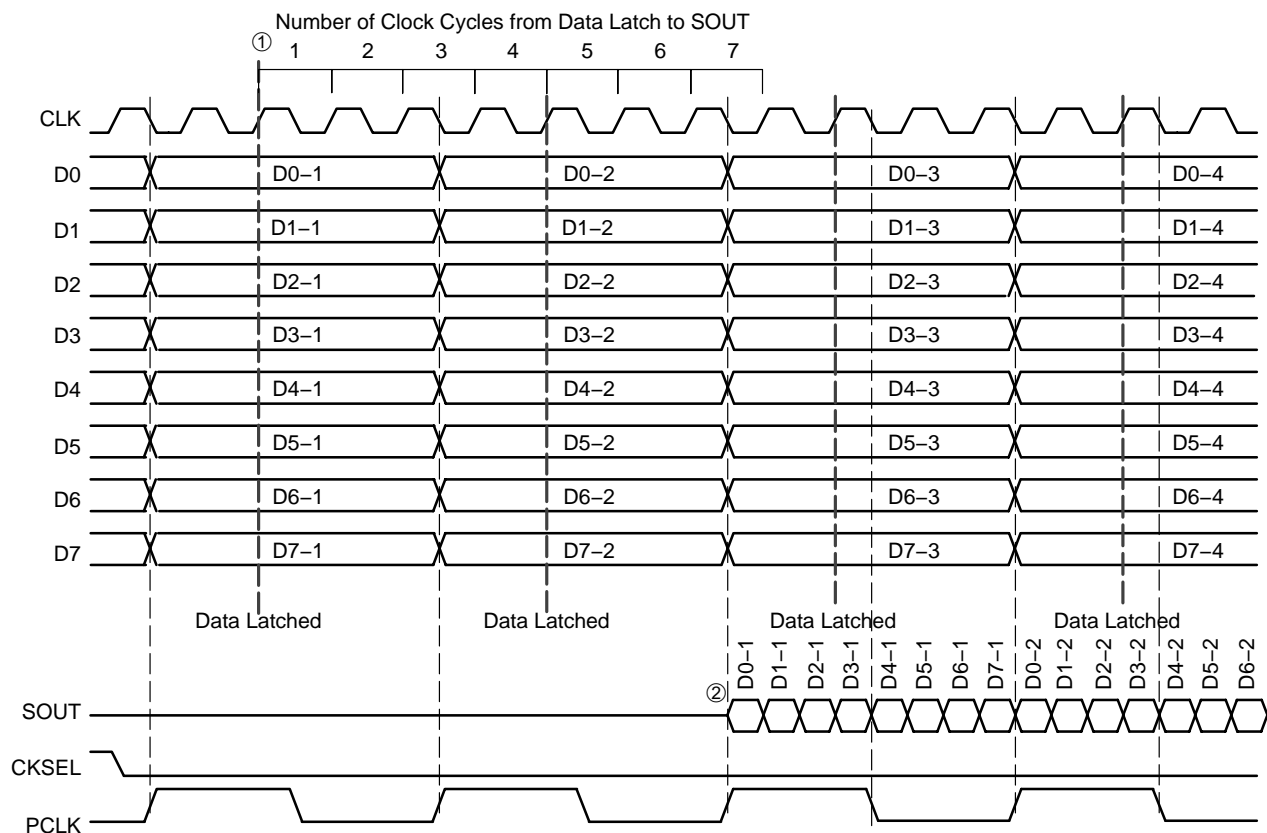

Figure 6. Timing Diagram 1:8 Parallel to Serial Conversion with CKSEL LOW
The CKSEL input (Pin 2) is provided to enable the user to select the serial data rate output between internal clock data rate or twice the internal clock data rate. For CKSEL LOW operation, the time from when the parallel data is latched ① to when the data is seen on the S_{OUT} ② is on the falling edge of the 7th clock cycle plus internal propagation delay (Figure 6). Note the PCLK switches on the falling edge of CLK.